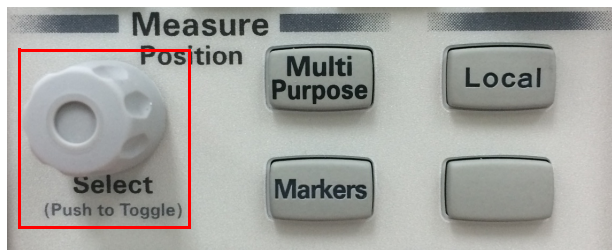

Figure 2-115 Select knob in the Measure section
- 1 Push  in the Measure section on the front panel to select or toggle between markers A and B as shown in Figure 2-115.